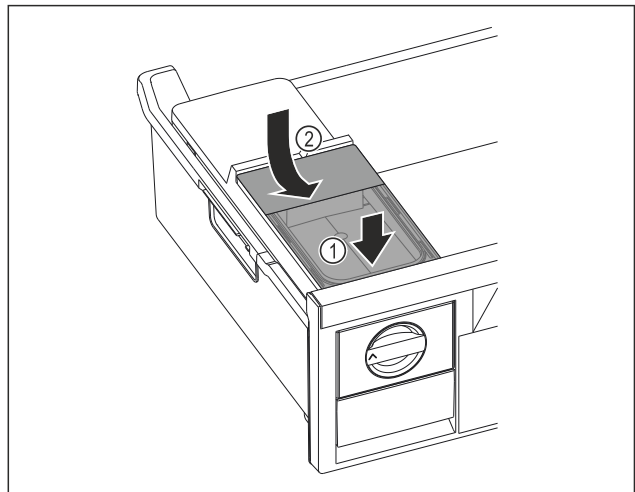

Fig. 101
- ▶ Position the water tank at the front. Fig. 101 (1)
- ▶ Lower the water tank at the rear. Fig. 101 (2)